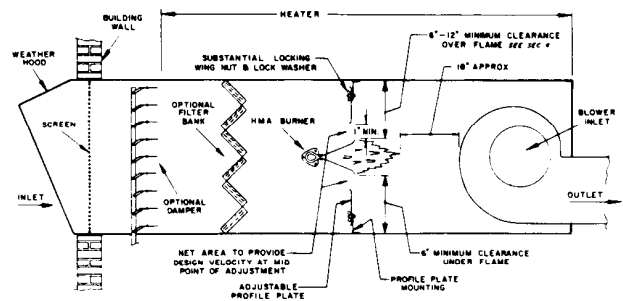

FIGURE 2 Installation in Heater
□ Generally, where the heater casing contains both the burner and blowers, the air velocity will be less than optimum due to the bulk of the blowers. In this case an adjustable restriction (profile plate) must be installed at the burner to step up the velocity to requirements. See Figure 2.